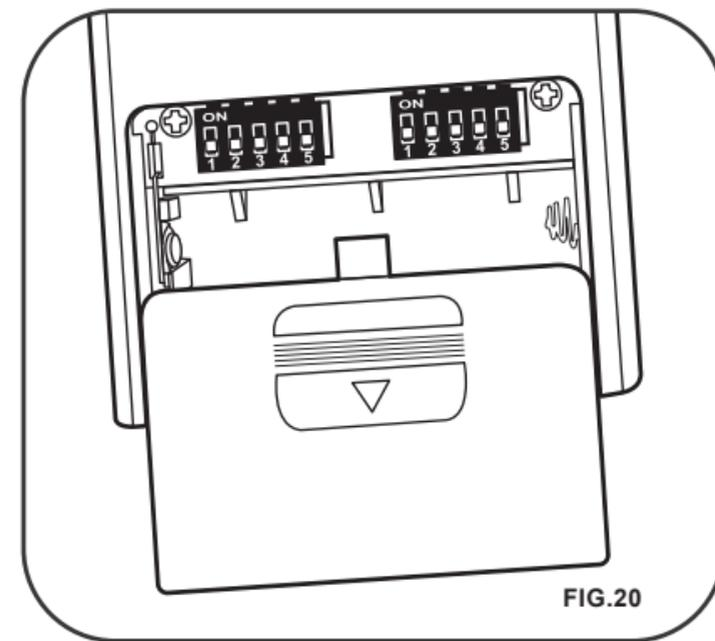

FIG.20
1. Select desired frequency from the back of transmitter. (FIG. 20)